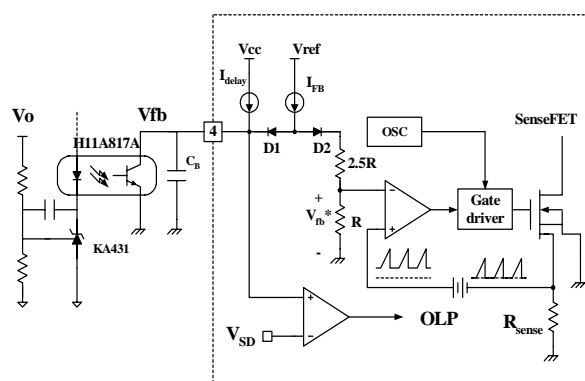

Figure 11. Pulse width modulation (PWM) circuit
3. Feedback Control : FSCQ0765RT employs current mode control, as shown in Figure 11. An opto-coupler (such as the H11A817A) and shunt regulator (such as the KA431) are typically used to implement the feedback network. Comparing the feedback voltage with the voltage across the R_{sense} resistor plus an offset voltage makes it possible to control the switching duty cycle. When the reference pin voltage of the KA431 exceeds the internal reference voltage of 2.5V, the H11A817A LED current increases, thus pulling down the feedback voltage and reducing the duty cycle. This event typically happens when the input voltage is increased or the output load is decreased.
3.1 Pulse-by-pulse current limit: Because current mode control is employed, the peak current through the Sense FET is limited by the inverting input of PWM comparator (V_{fb}^*) as shown in Figure 11. The feedback current (I_{FB}) and internal resistors are designed so that the maximum cathode voltage of diode D_2 is about 2.8V, which occurs when all I_{FB} flows through the internal resistors. Since D_1 is blocked when the feedback voltage (V_{fb}) exceeds 2.8V, the maximum voltage of the cathode of D_2 is clamped at this voltage, thus clamping V_{fb}^* . Therefore, the peak value of the current through the Sense FET is limited.